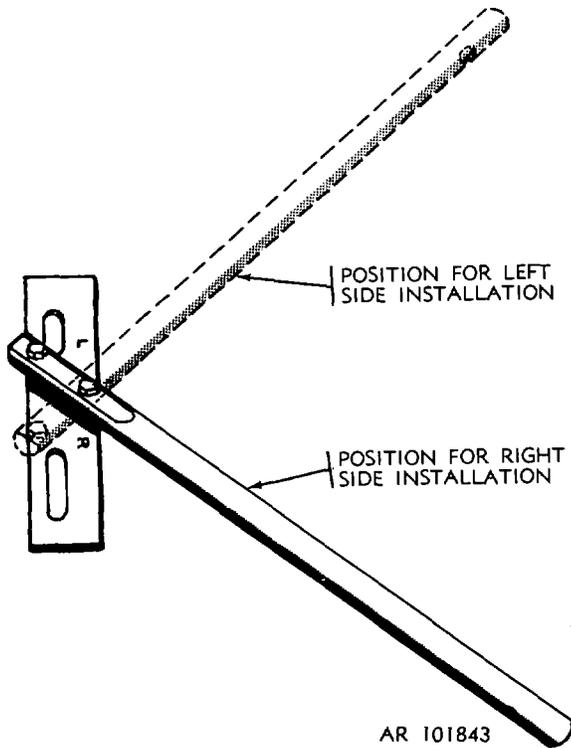

Figure 2-12. Guide bracket assembly.
d. If right side of towing vehicle is to be used—remove rear bolt and loosen front bolt on guide bracket assembly, pivot rod to be angled towards letter R. Replace rear bolt and tighten both bolts. Reverse procedures for left side of towing vehicle (fig. 2-12).